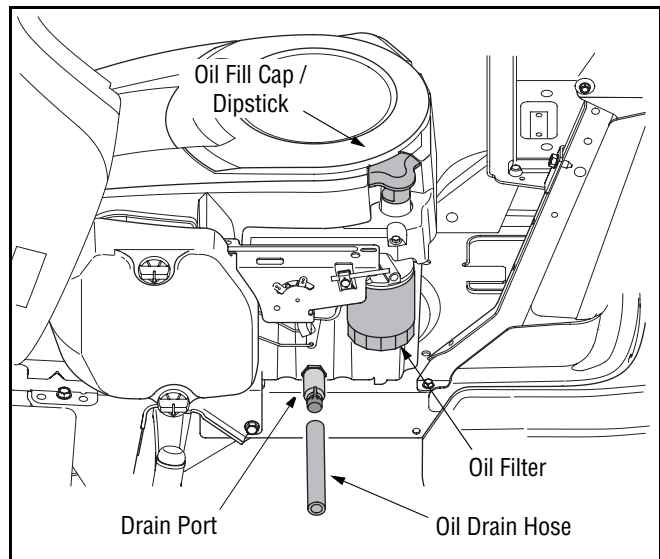

Figure 15
- Pop open the protective cap on the end of the oil drain valve to expose the drain port. See Figure 15
- **Slowly** pour oil into the fill tube. Fill the crankcase until the oil level reaches the full (F) mark on the dipstick (Refer to Figure 15 on Page 19).